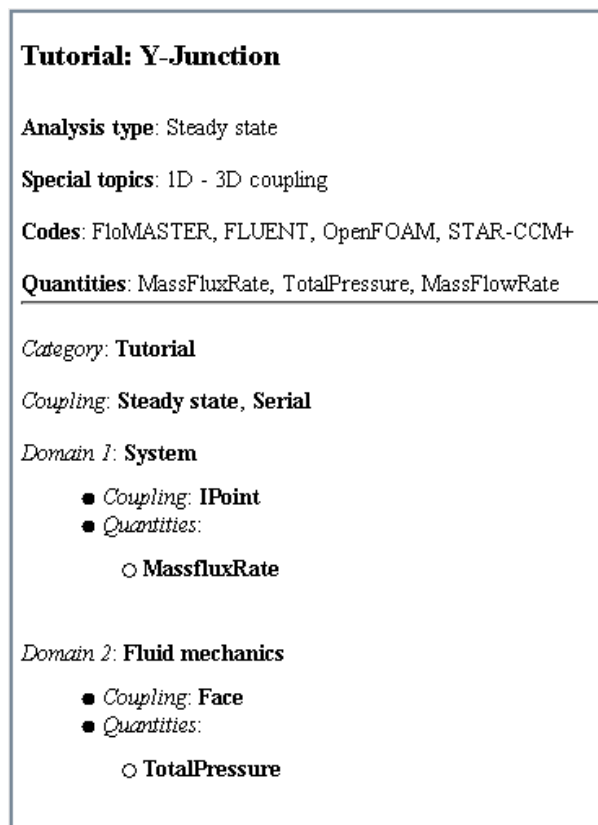

Figure 9: Coupling specification Y-Junction
2. Select the Tutorial coupling specification Y-Junction which offers a preconfigured setting for this tutorial (see Figure 9). Alternatively you can select the General coupling specification General two-domain coupling and do the required settings manually (cf. ▷ V-4.5.1 Category: General ◁).